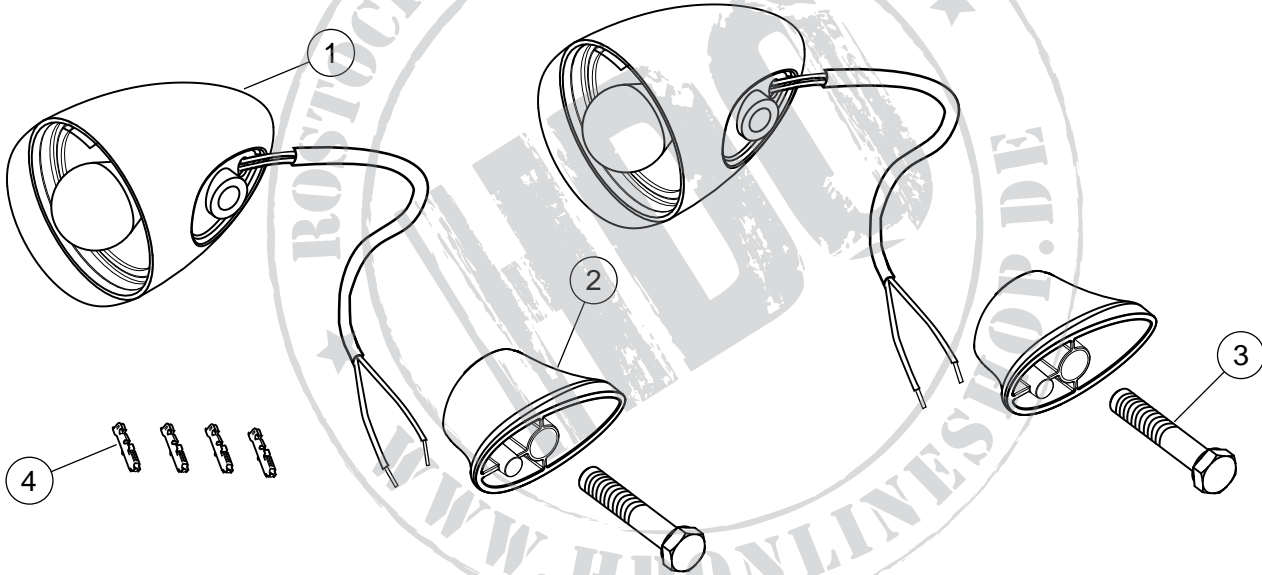

Figure 9. Service Parts: V-Rod Chrome Rear Turn Signals
See Figure 9 and Table 2.
1. See Figure 9. Measure the wire lengths of the OE (Original Equipment) turn signals. Cut the wire lengths on the **new** chrome turn signals (1) to match the length of the wires on the OE turn signals.